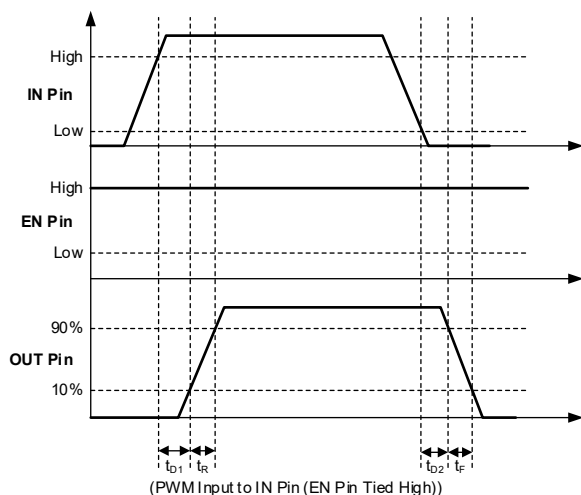

Figure 2. Non-Inverting Configuration
- See timing diagrams from Figure 2 to Figure 3.